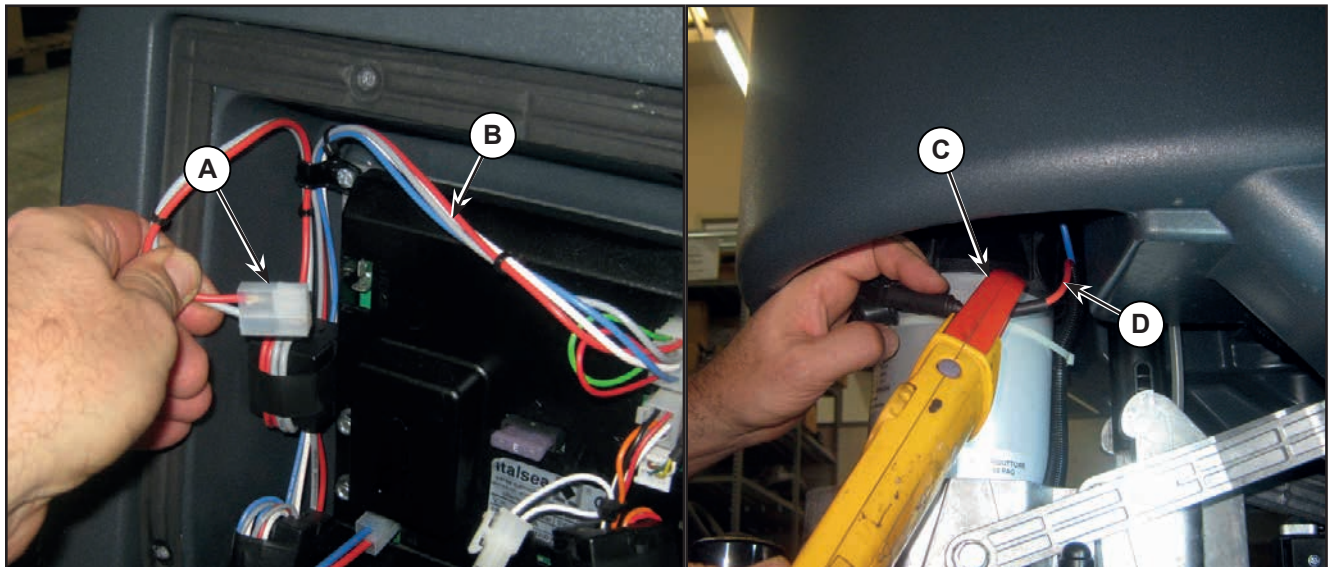

Figure 7:
5. Disconnect the drive system connector (A) (Figure 7) on the Main machine controller (B) to disable machine movement.
7. Apply the amp clamp (C) to an electrical cable (D) of the brush motor.
10. Remove the amp clamp (C).